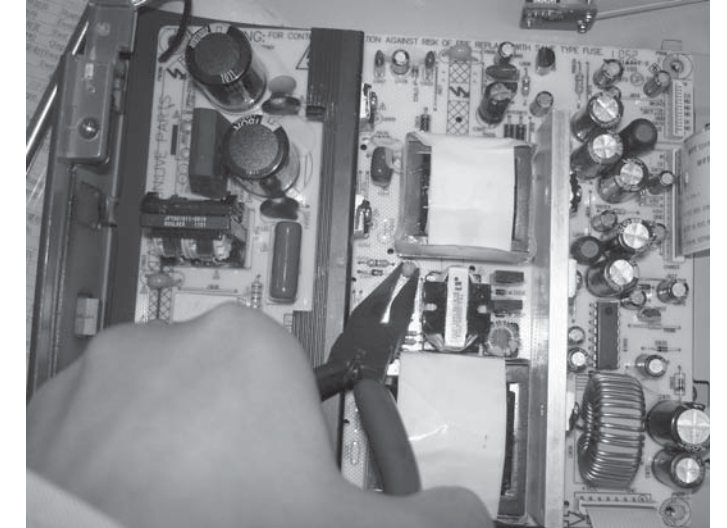

Figure 16
- 2) Using a noise plier to press the rubber space tightly, then you can take the power board out from the main unit as shown in figure 16.